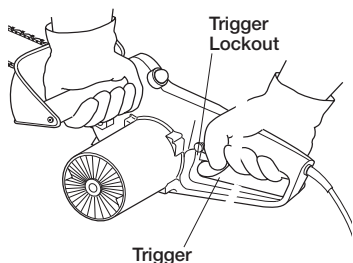

Figure 10 - Trigger Lockout and Trigger Location
3. Use both hands to grip saw. Always use left hand to grip front handle and right hand to grip rear handle. Use firm grip. Thumbs and fingers must wrap around saw handles (see Figure 10, page 13).
5. When ready to make a cut, press in trigger lockout with right thumb and squeeze trigger (see Figure 10, page 13). This will turn saw on. Releasing trigger will turn saw off. Make sure saw is running at full speed before starting a cut.